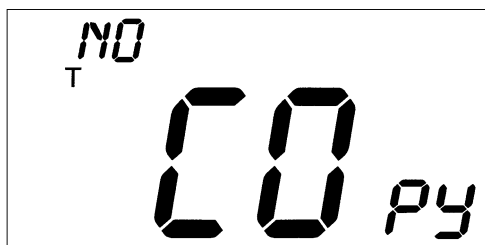

Fig. 7 — Copy Command Display
- The Copy command can be used to copy the previous day's schedule if the schedules are the same. The copy command becomes available after all the occupied periods are programmed in a day. Use the UP ARROW to change the copy command to YES. Use the DOWN ARROW to change the copy command to NO. Press the Mode button when the choice has been made. See Fig. 7.